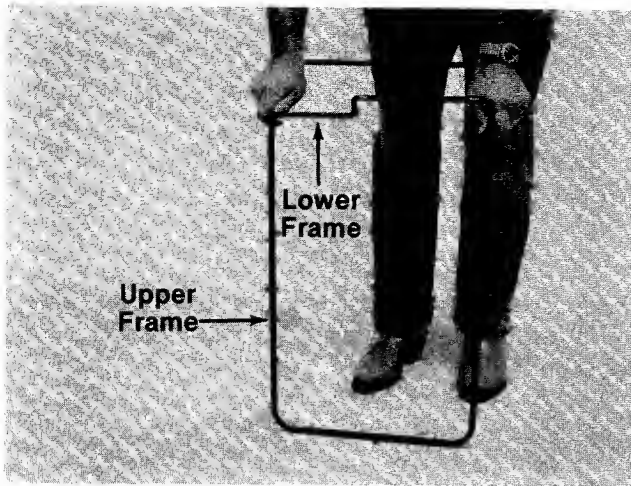

FIGURE 10.
1. Join the upper frame and lower frame assembly as shown in figure 10.